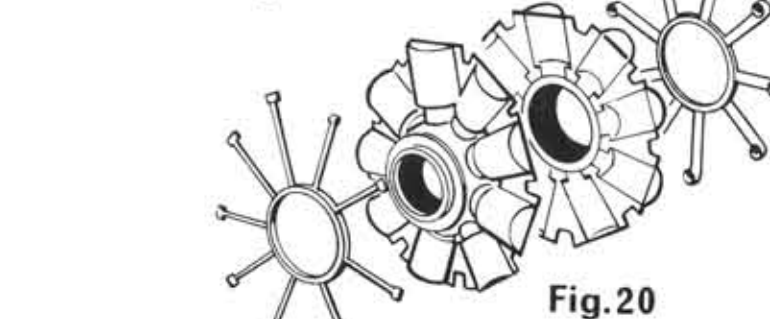

Fig. 20
**ENGINE:** Assemble as indicated in Fig. 20. Glue parts together, then paint metallic blue-black. Slide onto tube in position shown in FIG. A.